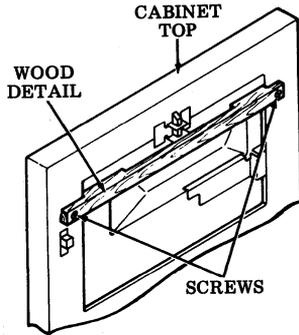

Fig. 13—Forms Access Printer Cabinet Top
3.14 Open front doors (left first) and depress latch button, open cabinet top and remove two screws and wood detail. (Fig. 13).